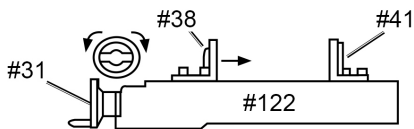

Fig. 15
2. Open the Moveable Vise Plate (#38) to accept the workpiece by rotating the Hand Wheel (#31) counterclockwise (Fig. 15).